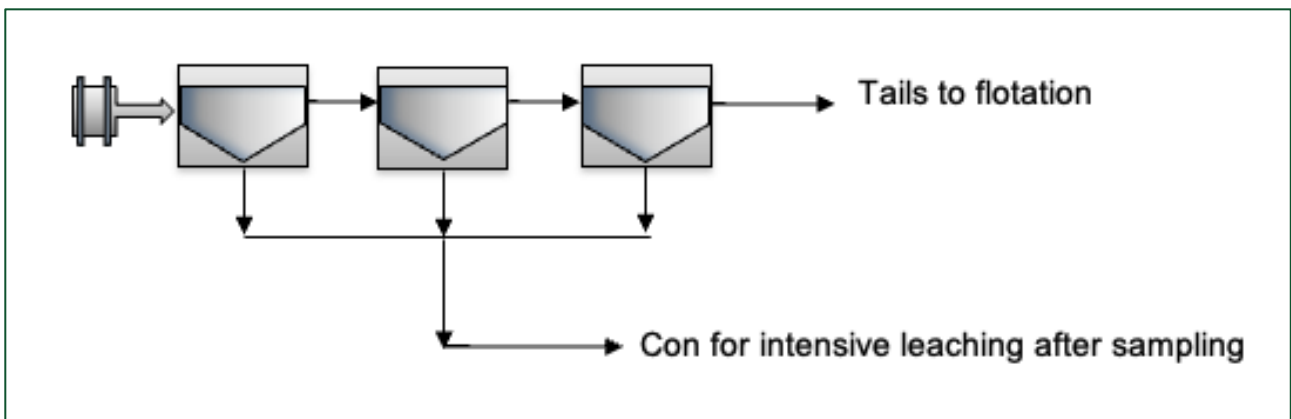

Figure 2 – Falcon gravity process to produce free gold concentrate.
- Separate gravity (Falcon) concentration test-work (see Figure 2), conducted on the master composite sample (BB_45_1), upgraded the sample from 0.23 g/t Au to 0.67 g/t Au – a 3-fold increase. The gravity concentrate contained 32.6% of the gold and 15.7% of the copper (refer Table 2). **Intense cyanidation leaching of the gravity concentrate was able to extract 90.2% of the contained gold recovered in the gravity circuit.** Further work will explore further gravity concentration and leaching stages, in conjunction with flotation, to potentially increase gold recovery.
Three kilograms of the BB_45_1 composite, ground to 80% passing (P₈₀) 75-micron (µm) grind size, were subjected to a three-passes Falcon concentration test (to improve recovery). The objective of this test is to recover free gold into a gravity concentrate. The arrangement of the Falcon gravity separation process is shown in Figure 2, below.